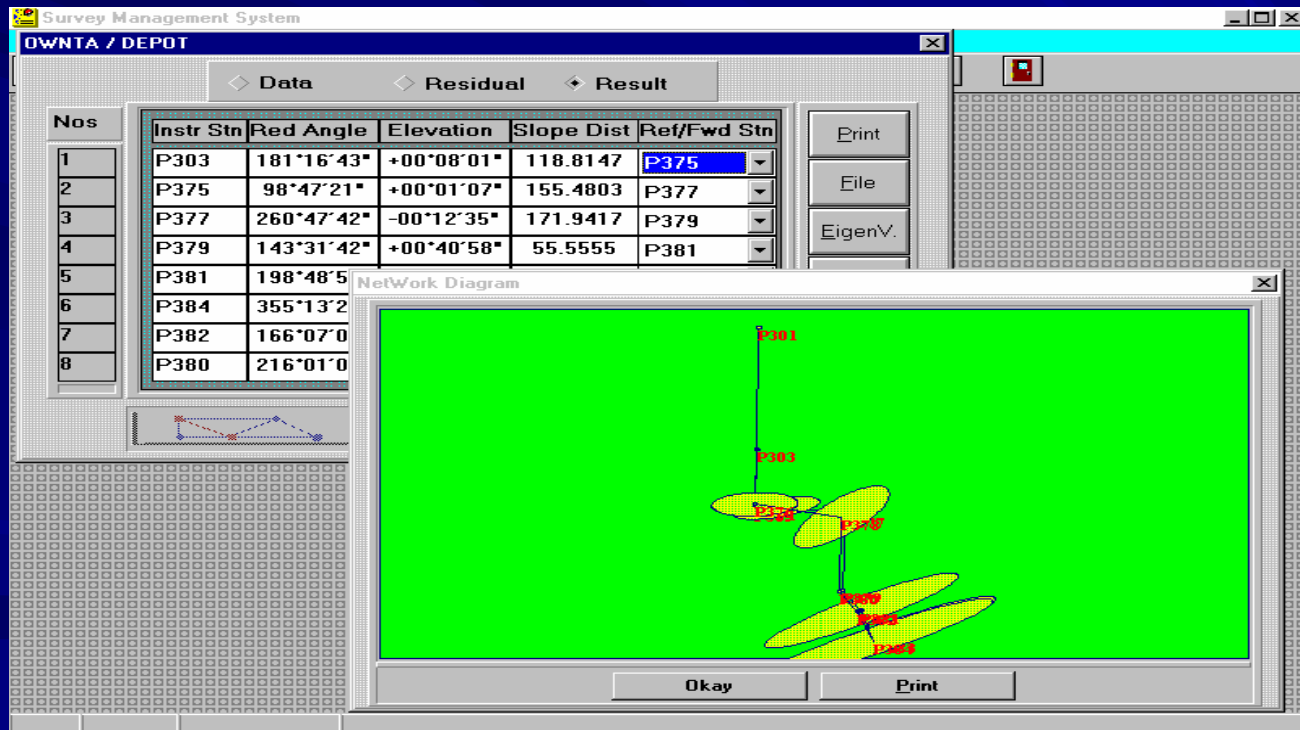

Fig. 6-3
- SMS Least Squares adjustment involves iteration until corrections are insignificant followed by reduction of detail or intermediate points. The results, Fig. 6-3, are available for review.